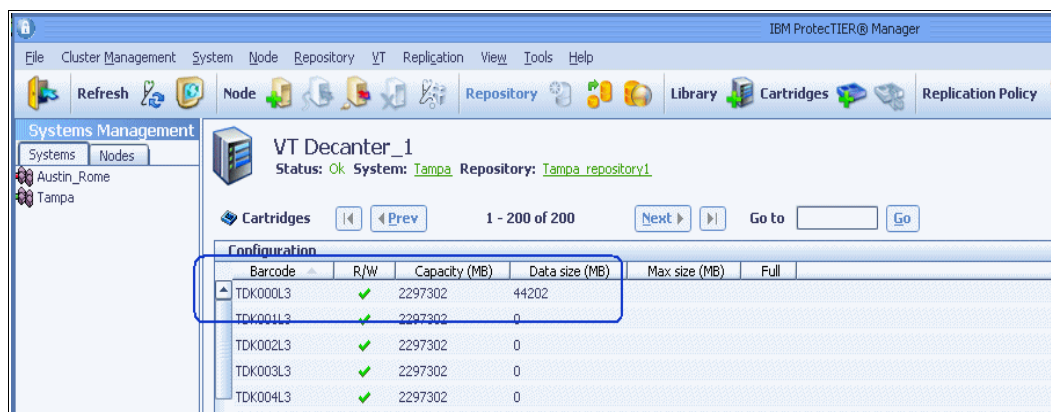

Figure 7-18 Data size on virtual data cartridge after backup
22. Finally, we write our backup successfully to VT Decanter\_1 on cartridge TDK000L3 (Figure 7-18).